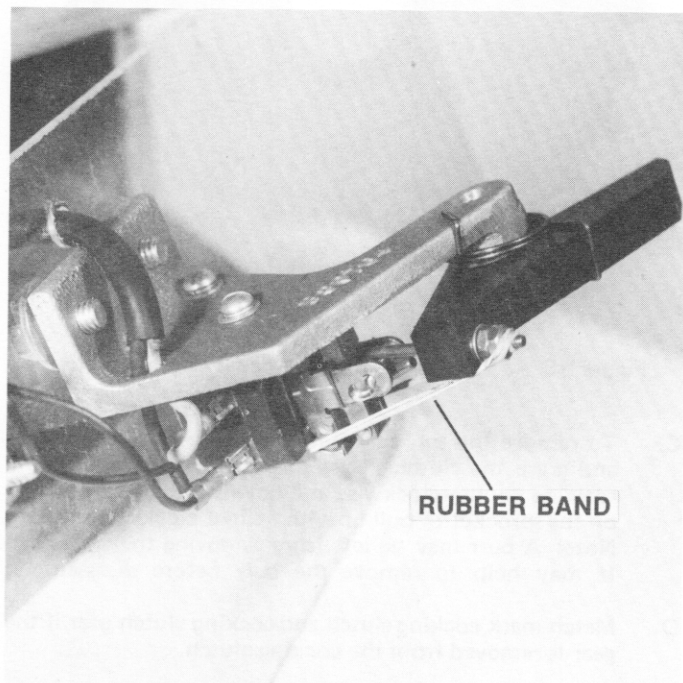
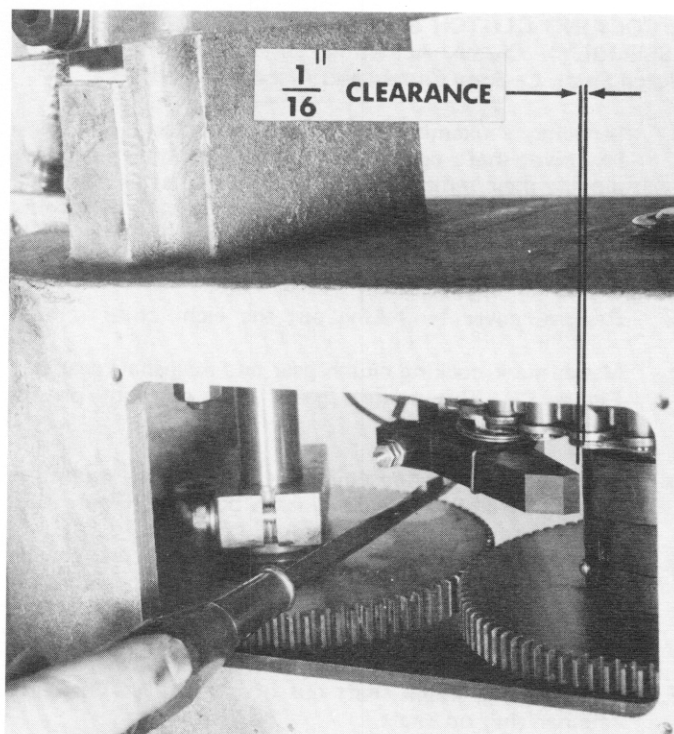

Figure 17 — Cocking Clutch Actuating Lever Assembly
Figure 18 — Clutch Actuating Lever Clearance
- C. Remove left side cover and examine solenoid and actuating lever (refer to Figure 17 and paragraph VII-4C, page 10). Activating release button or Safe Release switch should cause solenoid and actuating lever to snap instantly when top of clutch actuating lever clears pawl on cocking clutch sleeve. **(BE CAREFUL TO STAY AWAY FROM THROWING ARM).**
- C. When reinstalling side panel with cocking clutch actuating lever assembly (see Figure 17), use a rubber band to keep the armature seated in the coil until the screws have been reinstalled in the panel. Remove rubber band and allow lever to engage sleeve. The clutch actuating lever assembly should have a clearance of  $\frac{1}{16}$ " between clutch actuating lever and cocking clutch pawl when solenoid is depressed. (see Figure 18).